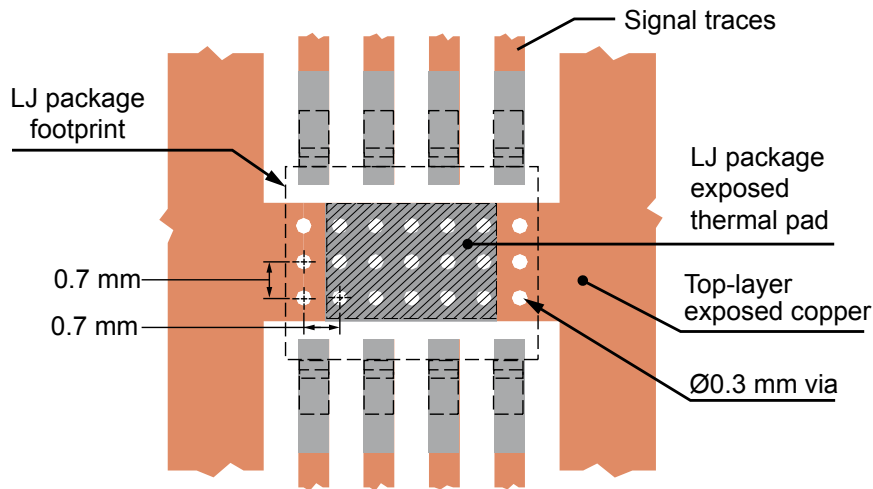

Figure 6. Suggested PCB layout for thermal optimization (maximum available bottom-layer copper recommended)
- The greater the quantity of thermal vias, the better the dissipation. If the expense of vias is a concern, studies have shown that concentrating the vias directly under the device in a tight pattern, as shown in figure 6, has the greatest effect.